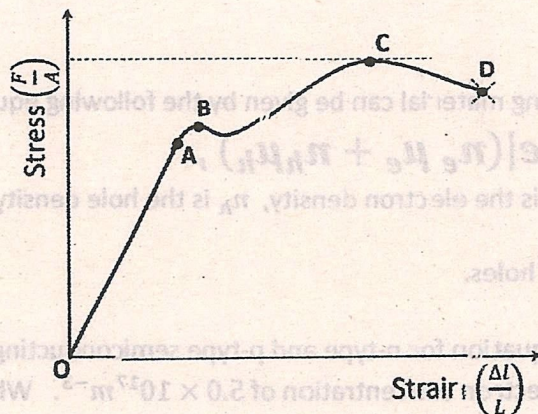

Figure 1 Graph of Stress Vs Strain.
- 1) Deformation of a metal under an applied longitudinal stress is depicted in the following figure (Figure 1).